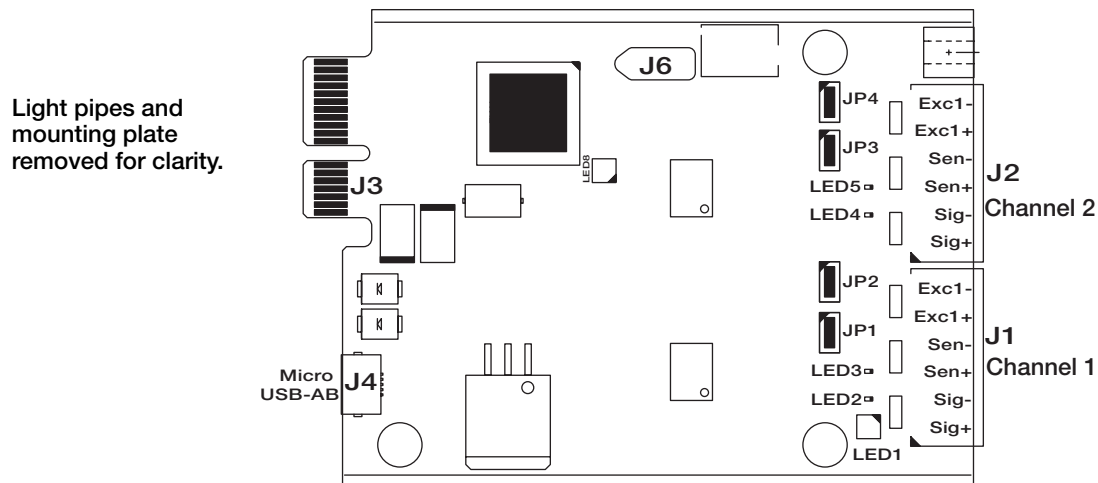

Figure 2-28. Single and Dual A/D Scale Cards
3. Plug the connector into the appropriate channel of the A/D scale card (see Figure 2-28).